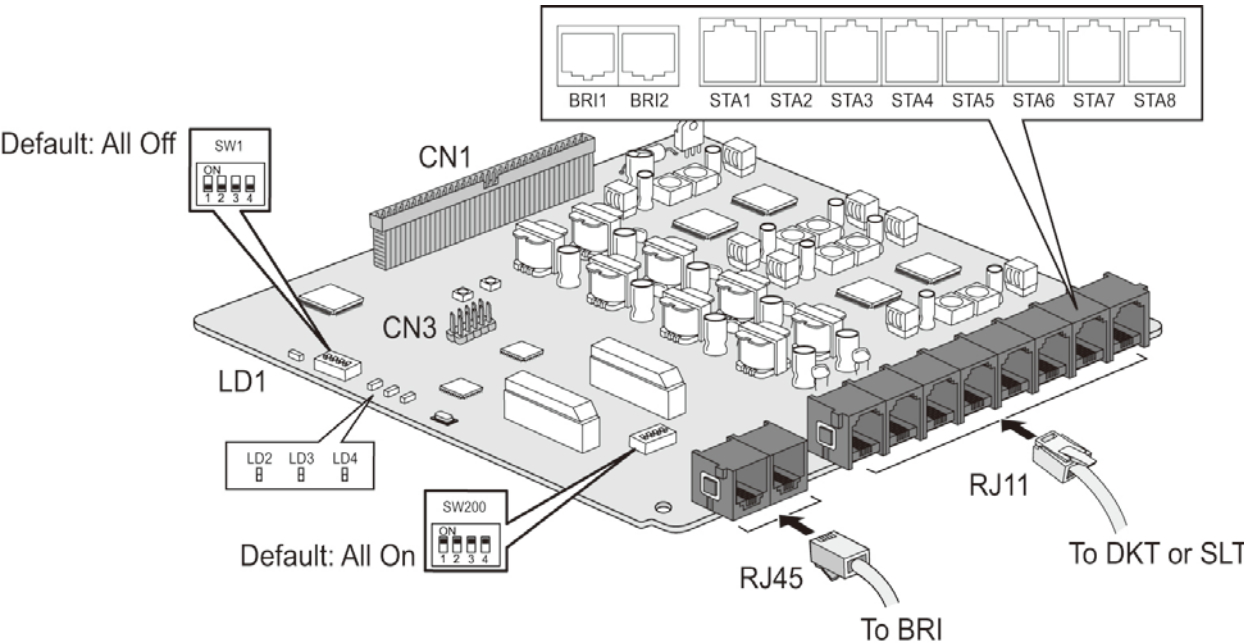

Figure 4.7.5-1 BH208
The BH208 board has two (2) BRI (2B+D) and 8 Hybrid (DKT & SLT) interface ports. The board, as shown in Figure 4.7.5-1, can be installed on the CN1 connector of only the KSU. There are no option boards for the BH208.